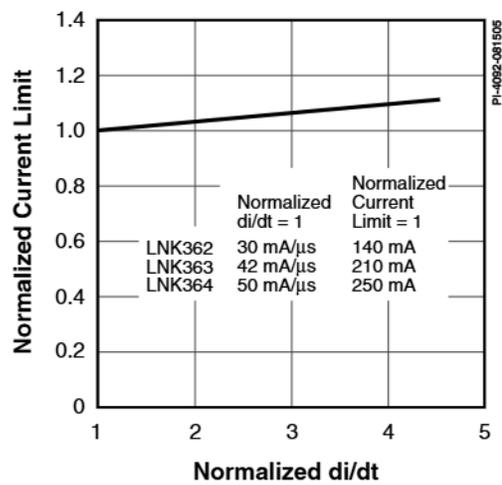

Figure 14. Current Limit vs.  $di/dt$ .
- E. For current limit at other di/dt values, refer to Figure 14.